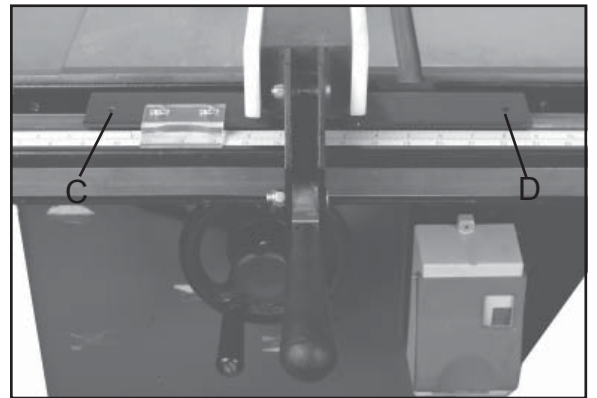

Figure 13
6. If the fence is highest at the front of the table, raise the two nylon pads on the front of the fence with a 4MM L wrench. Raise each side equally as it could cause the fence to be out of square with the table. (C,D, Fig. 13.)